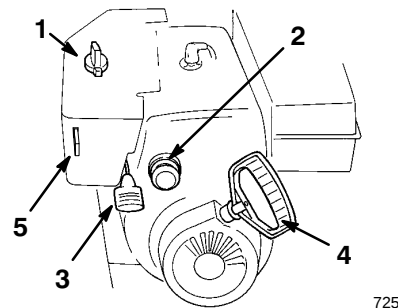

Figure 15
- **Choke** (Fig. 15)—Rotate the choke to the Full choke position to start a cold engine. As engine warms up, move choke gradually to Off.
- **Primer** (Fig. 15)—Press the primer to pump a small amount of gasoline into the engine for improved cold weather starting.
- **Throttle** (Fig. 15)—Move the throttle upward to increase engine speed and downward to decrease engine speed.
- **Recoil Starter** (Fig. 15)—Pull the recoil starter to start the engine.
- **Ignition Switch** (Fig. 15)—Insert the key before starting the engine. To stop the engine, remove the key.
1. Pull the choke knob off the choke rod (Fig. 15).
1. Move the throttle (Fig. 15) to the Fast position.
3. Rotate the choke (Fig. 15) to full choke position.
5. Insert the ignition key (Fig. 15).
- A. Grasp the recoil starter handle (Fig. 15) and pull it out slowly until positive engagement results; then pull it vigorously to start the engine.
7. After the engine starts, immediately rotate the choke (Fig. 15) to the 3/4 position.
3. Remove the ignition key from the ignition switch (Fig. 15).